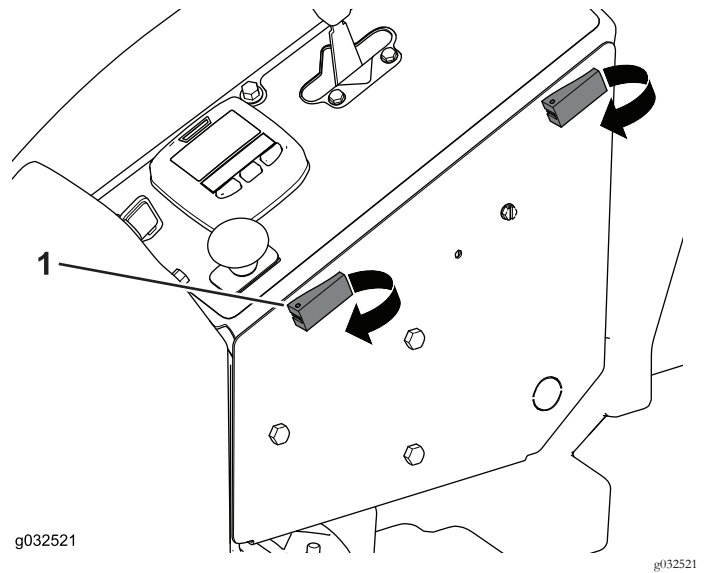

Figure 39
1. Toggle the swell latches and open the operator-controls compartment (Figure 39).